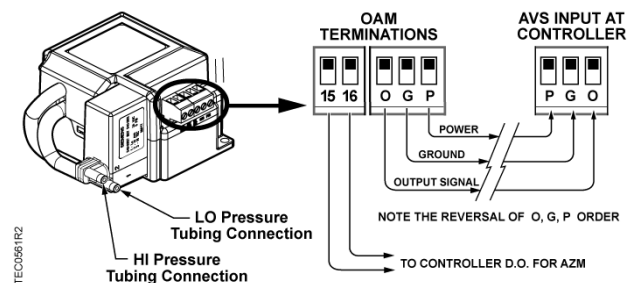

Figure 2. Offboard Air Module.
2. Wire up the terminal block. Terminal block plug(s) can be removed for easier access. See Figure 2.
3. Connect pneumatic tubing (#2 High, #1 Low). See Figure 2.